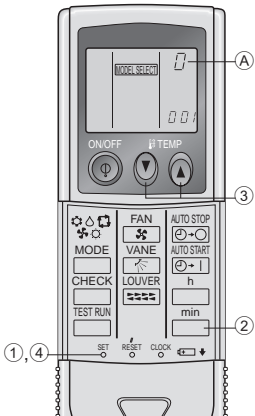

Fig. 6-4
4) Assigning a remote controller to each unit (Fig. 6-4)